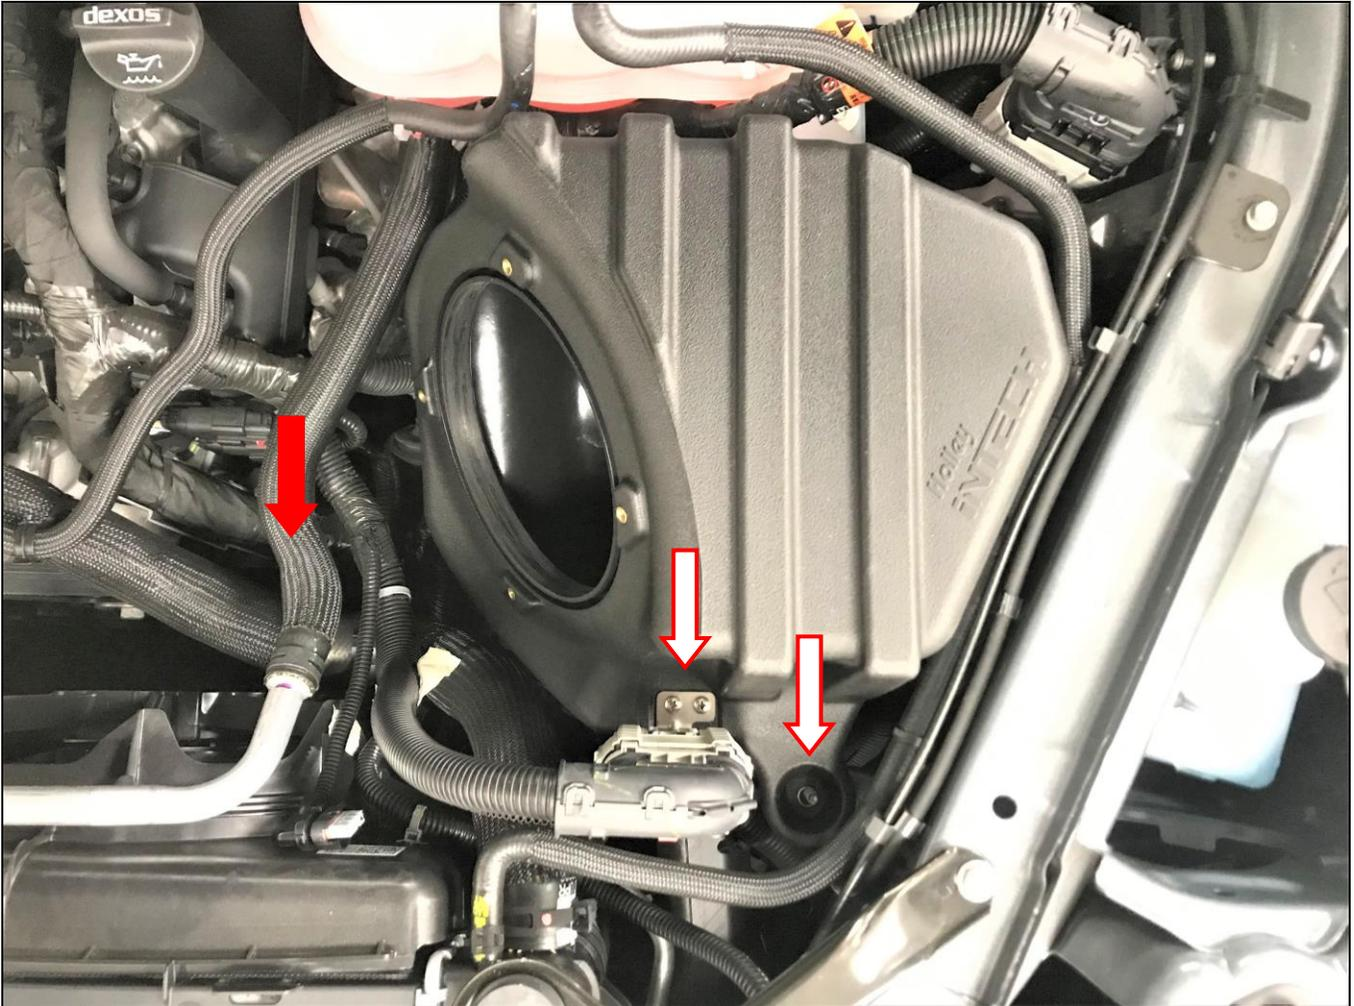

Figure 6
17. Using (x2) the supplied self-threading screws, secure the provided wire harness bracket to the iNTECH housing (**Figure 6**).
18. Install the iNTECH housing in the reverse order of the factory airbox, two pins and grommets installed first then slide down over the front mounting stud. Secure with the previously removed nut (**Figure 6**).
19. Slide the factory air scoop into the iNTECH housing. Secure the air scoop with the previously removed plastic clip (**Figure 6**).
20. Slide the wiring harness over the installed metal bracket until it locks (**Figure 6**).
21. Route the MAF sensor harness under the hose with the solid arrow (**Figure 6**).